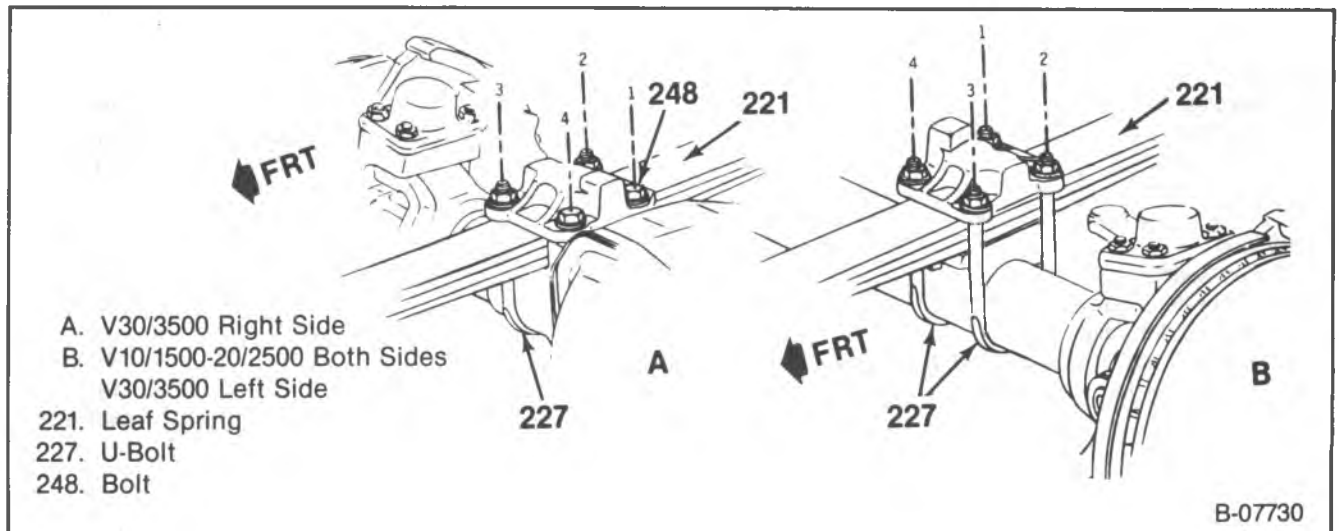

Figure 73 — U-Bolt Tightening Order
- Nuts (222) and bolts (248) in sequence (2-4-1-3) to 203 N·m (150 ft. lbs.) (figure 73).
- Nuts (239) to 122 N·m (90 ft. lbs.).
- Nuts (218) to 68 N·m (50 ft. lbs.).